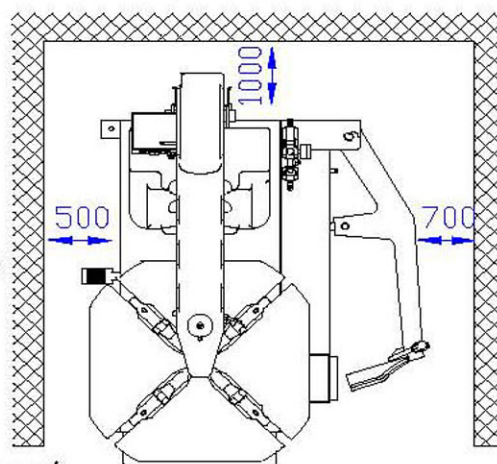

Fig1
The operation space around the machine wills not smaller than the indicated in FIG1
3.2.1 According to the requirement of the FIG1, position the body of the machine onsite. Un-package the accessory box and take out the rotation shaft assembly(FIG3-1) and the push-out shaft assembly(FIG3-2) and clean and spread the lubrication oil.